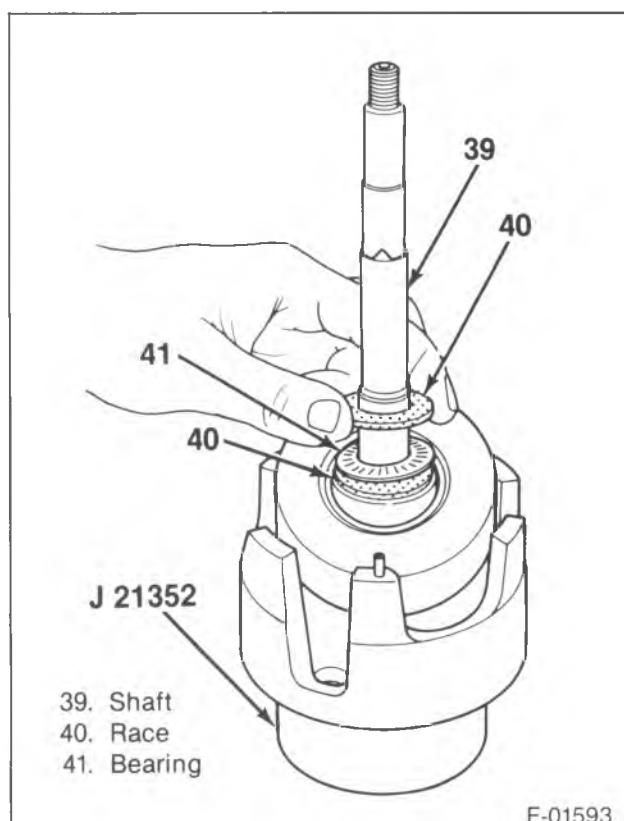

Figure 26—Removing the Front Thrust Races and Bearing
20. Rear thrust races (40) and thrust bearing (41) from the shaft (39) (figure 26).
21. Shaft (39) from the front cylinder half (29).
- If necessary, bend the discharge cross-over tube (26) to remove the shaft (39).
22. Front thrust races (27) and thrust bearing (28).